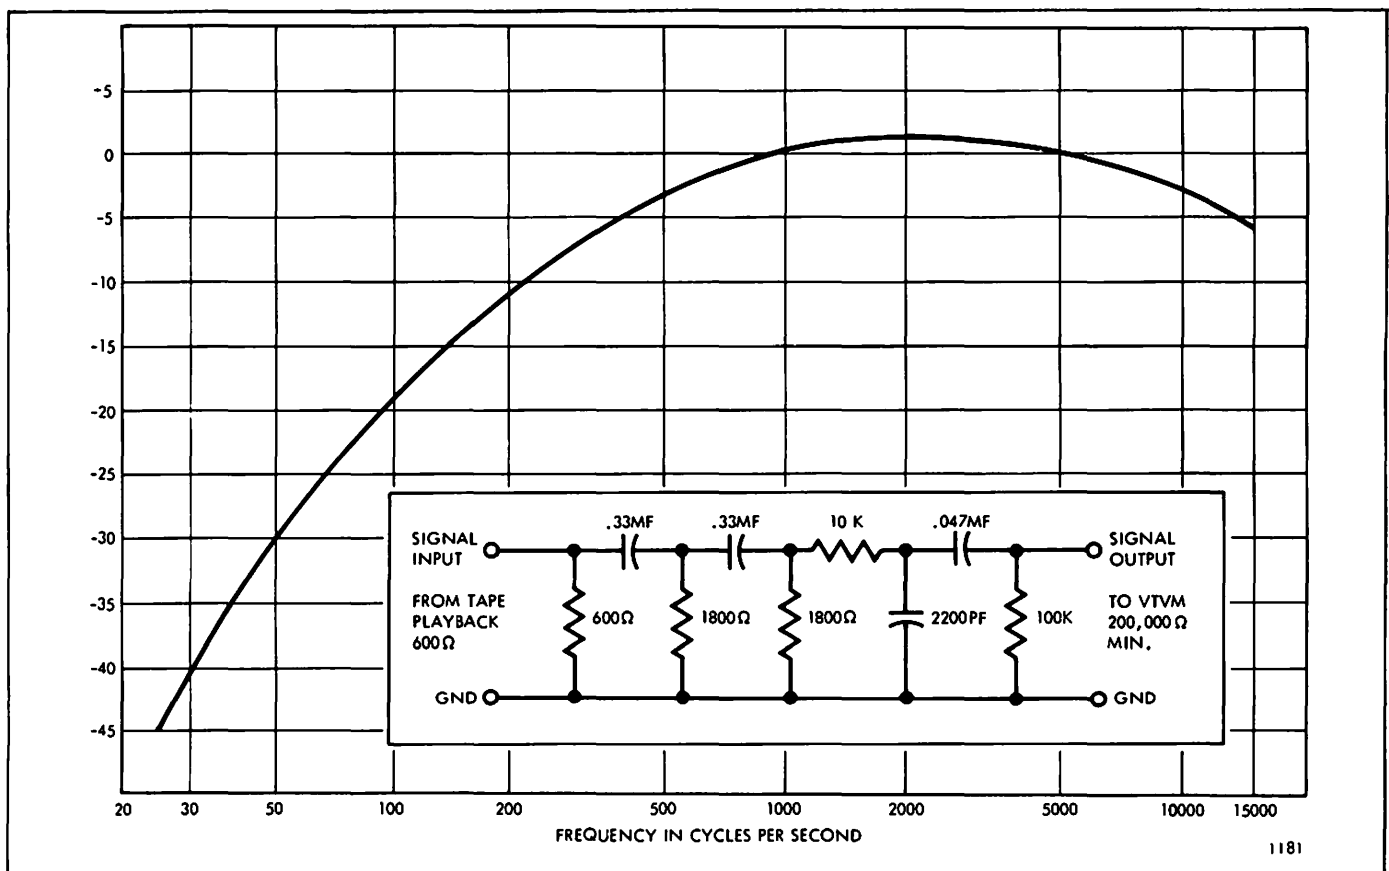

Figure 28. ASA Weighting Network and Response Curve
1. Connect signal generator to a calibrated attenuator box and terminate the output of the box. Feed this output to the input of the recorder channel under test. Connect a distortion analyzer and a vtvm to the output terminals. Connect an ASA weighting network in accordance with figure 28 in series with the input of the vtvm. Use a reel of tape of the type for which the recorder has been aligned under the above paragraphs. Select 15 ips tape speed.